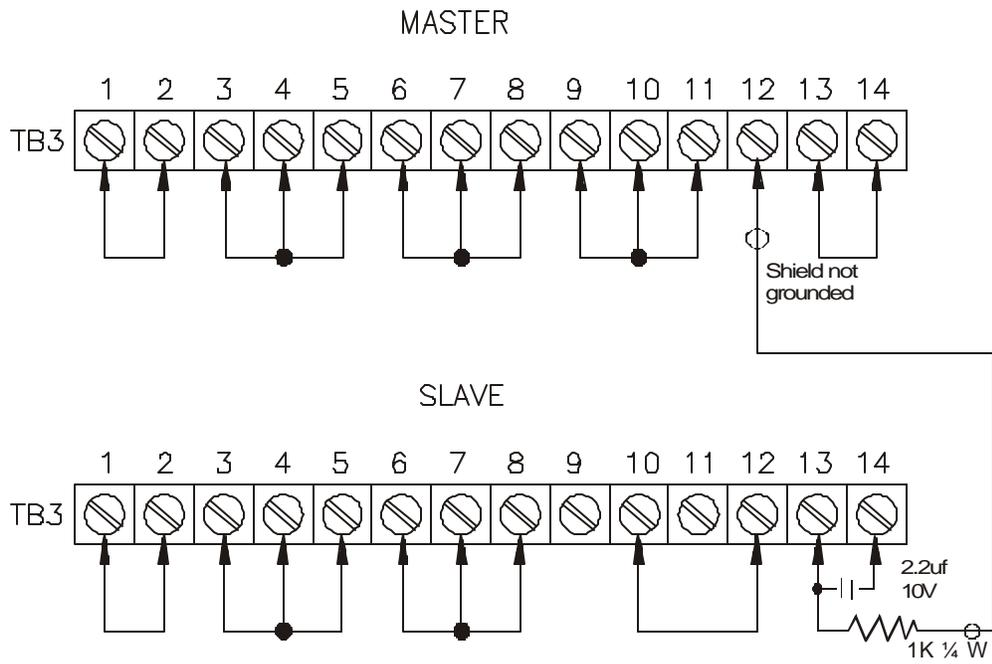

Figure 9A
3. Connect the master supply TB3-12 and TB3-13 of each supply as shown in either Figure 9A or 9B.
5. See Figure 9A or 9B for + and - voltage connection.